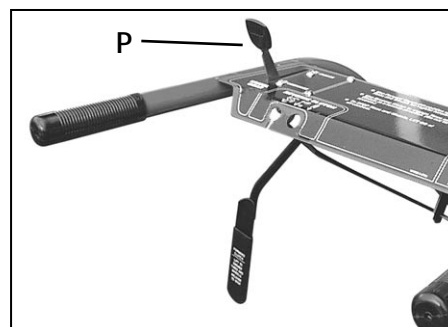

Figure 2-11: Attach Wheel Gear Lever.
1. Insert the Wheel Gear Lever (P, Figure 2-11) up through the slot in the control panel that is labeled "WHEEL GEAR."